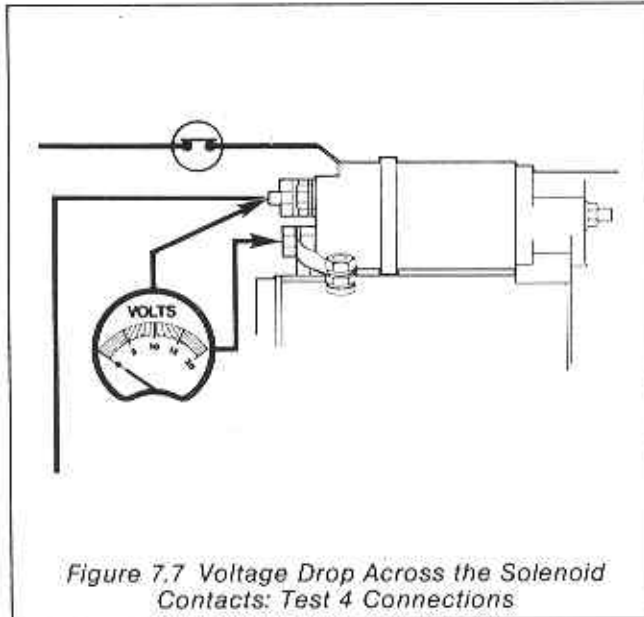

Figure 7.7 Voltage Drop Across the Solenoid Contacts: Test 4 Connections
7.16 Connect the voltmeter across the two main solenoid contacts as shown in Figure 7.7. With the starter switch open the voltmeter should read battery voltage. When the starter switch is operated the voltmeter should read zero volts or a fractional value.